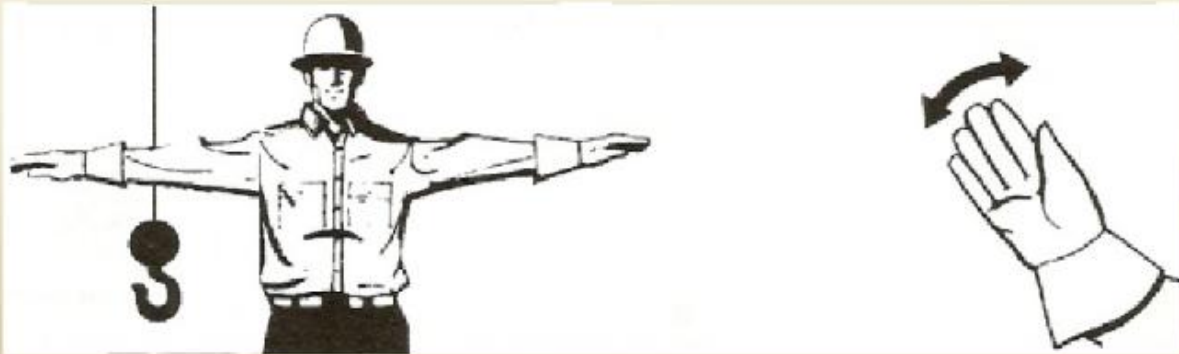

Figure 3 Stop.
1. both your hands are free, extend both arms horizontally with your fingers outstretched (Figure 3).
2. If only one hand is free, you signal "STOP" by facing the palm of your hand toward the operator with your fingers outstretched and waving your hand from side to side (Figure 3).